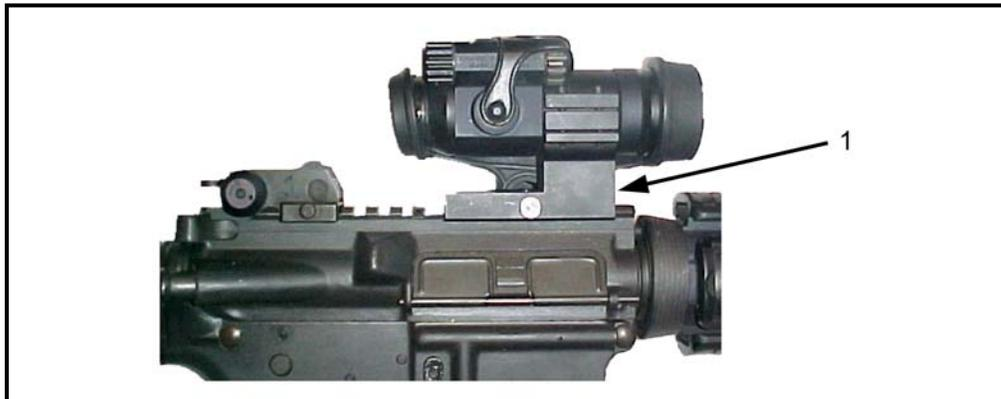

Figure 2-25. M68 mounted on the M16A4/M4-series weapons.
b. **M16A4 and M4-Series Weapons** (Figure 2-25). The M68 mounts directly to the integrated rail on top of the M16A4 and M4-series weapons (in place of the carrying handle). The half-moon spacer (1) should be installed to raise the M68 above the front sight post but the M68 can still be fired without the spacer. The soldier's preference dictates exactly which notch the M68 is mounted to. Although any notch is acceptable, testing has shown that the farther away the M68 is from the soldier's eyes, the better his field of view. Remove the carrying handle, align the locking bar with a notch, and tighten the torque-limiting knob until it clicks twice. If the M68 is remounted onto the same notch, it will retain zero.